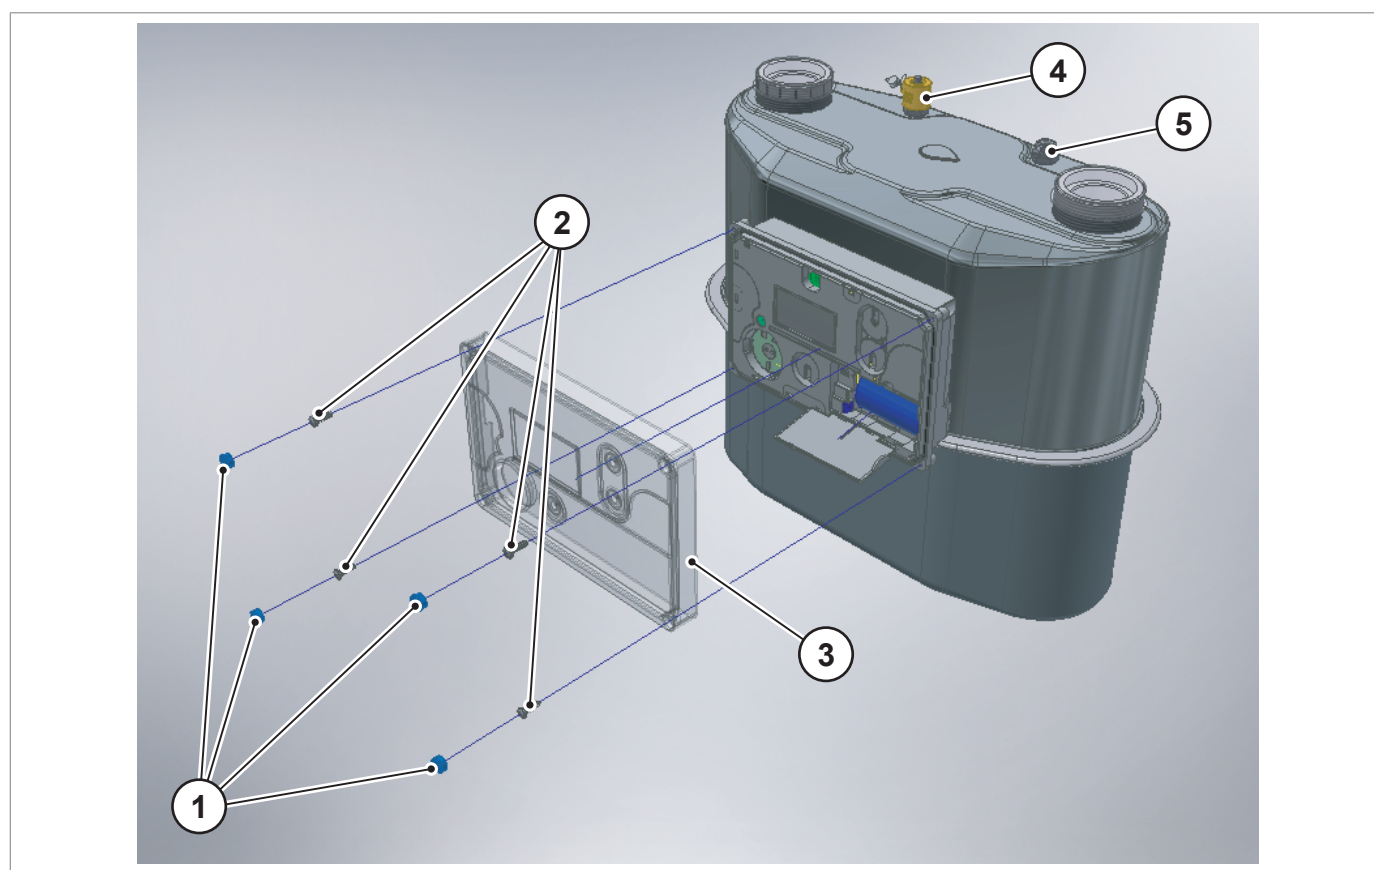

Fig. 11.10.
- a position specified in the assembly drawing of the equipment (Fig. 11.10);